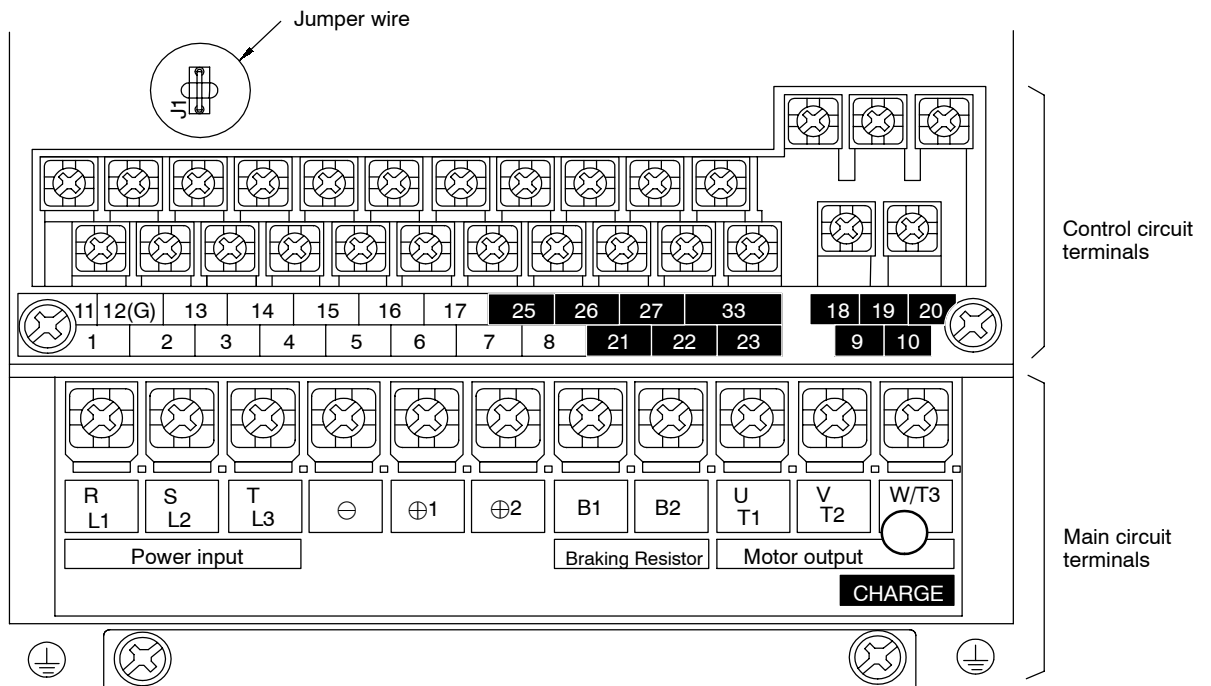

Fig 6.1 Terminal Arrangement of a 200 V Class Inverter of 0.4 kW
- When the terminal is being used as a voltage input terminal (setting 0 or 1), jumper J1 must be disconnected on the control board. (See *Figure 6.1*.) The terminal's input resistor will be destroyed if the terminal is used for a voltage input with jumper J1 connected.